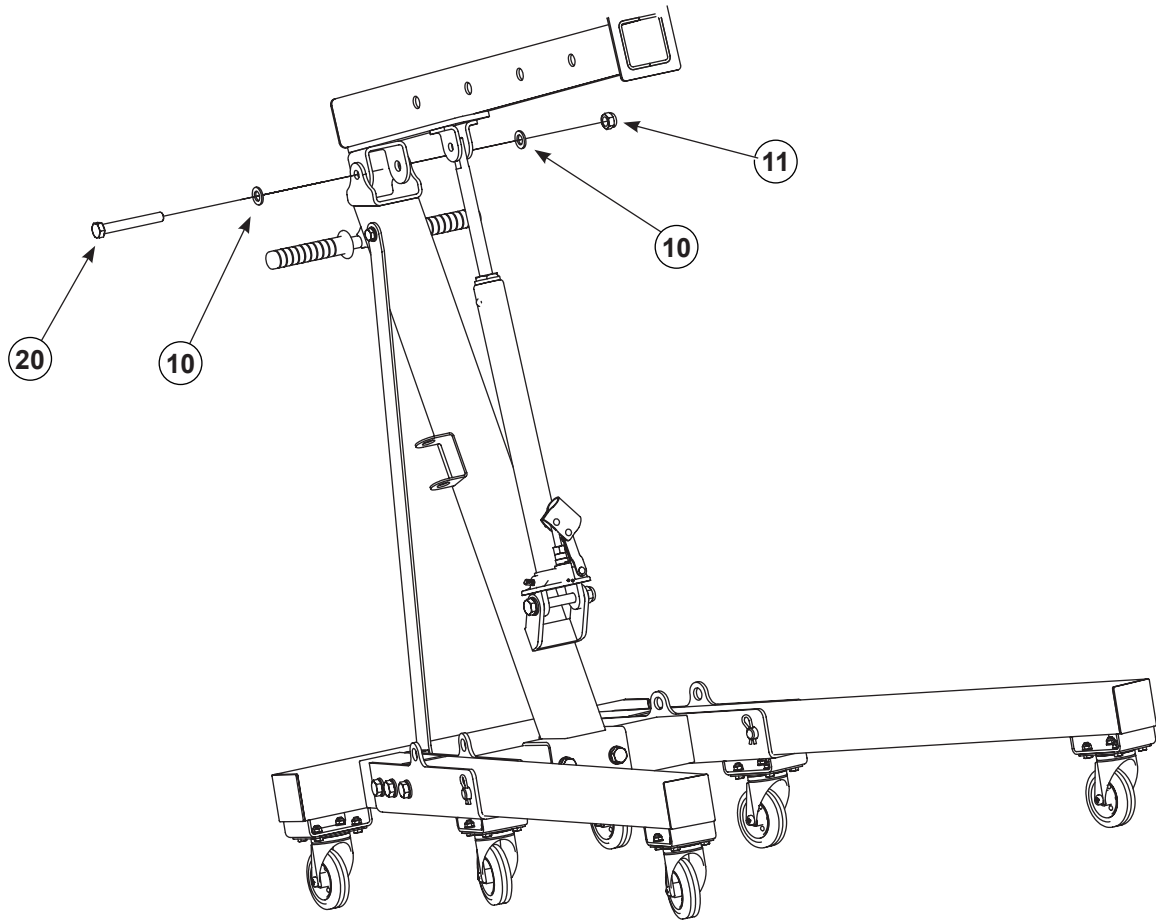

Figure 15 Boom Installation (2 of 3)
2. See Figure 15. Loosely install lock washer (10), nut (11), and bolt (20).
4. See Figure 15. Utilizing a wrench or equivalent tool, tighten bolt (20) and nut (11) to 118.0 ft-lb (160 N•m).